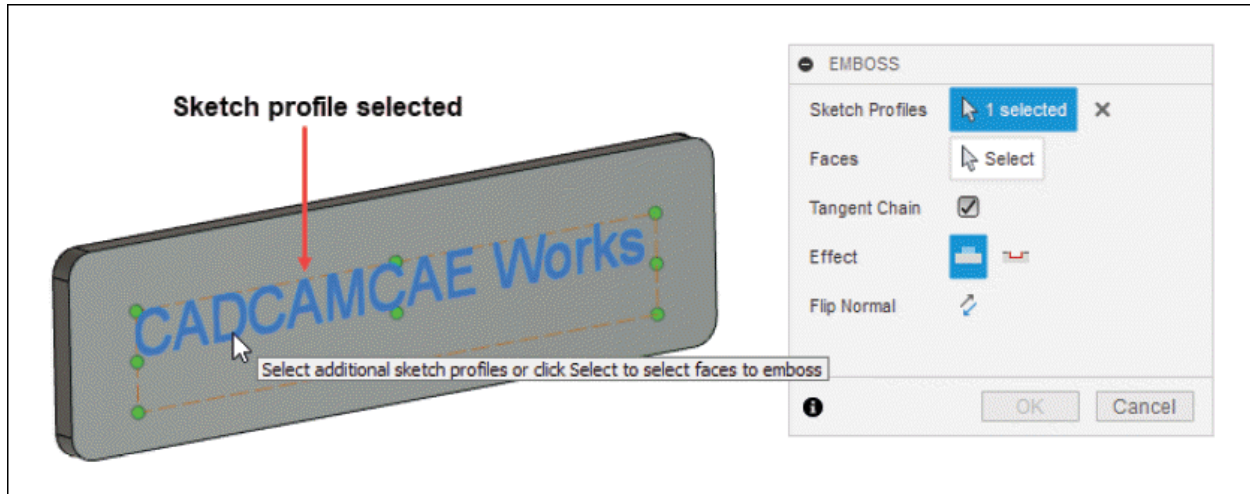

Figure-36. Sketch profile selected
- The **Select** button of **Sketch Profiles** section is active by default. Select the sketch profile which you want to emboss on a solid body; refer to Figure-36.